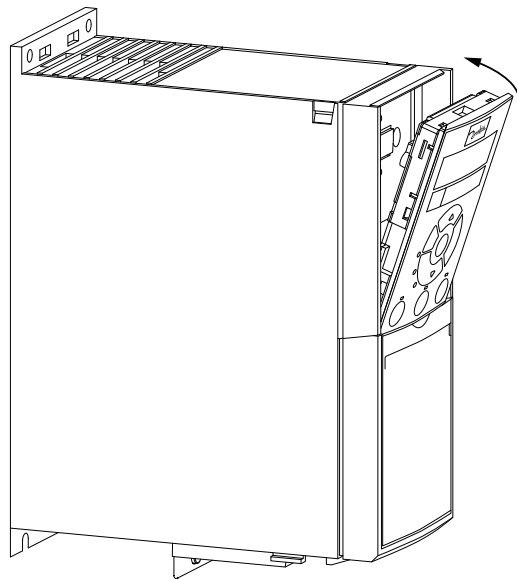

Fig. 46 - Secure Keypad in Place
2. Push the top of the VFD keypad into the variable frequency drive as shown in Fig. 46.